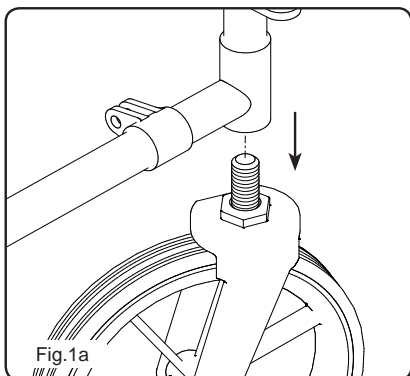

Fig.1a
- Loosen and remove existing castor from wheelchair (Fig.1a).